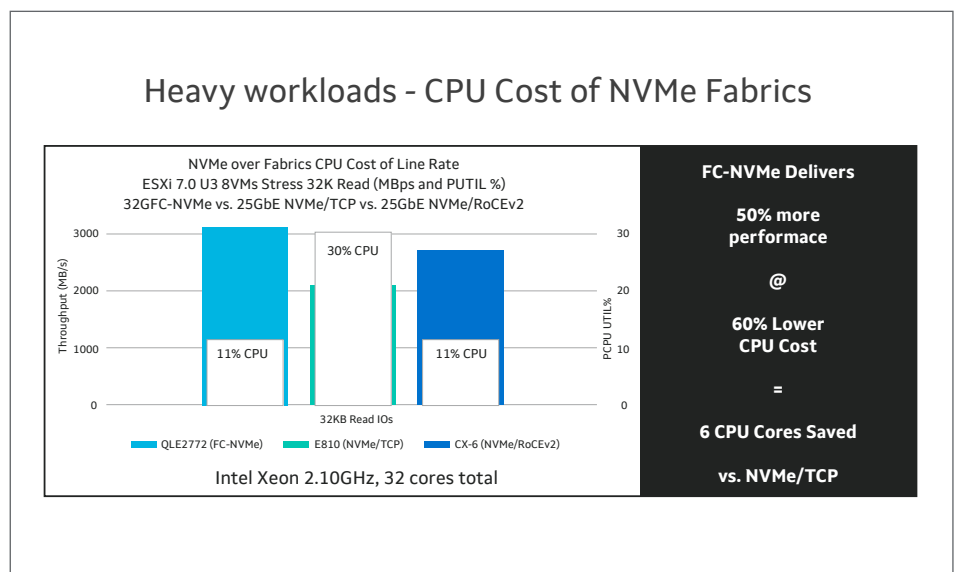

Figure 4: Heavy workloads - CPU Cost of NVMe Fabrics
With NVMe/TCP, software initiators are utilized to provide the command and control for encapsulating the NVMe commands into the TCP packets that are sent across the network. Standard TCP/IP congestion control is used to route the packets from the source to the destination. That means virtually any modern NIC with bandwidth of 10GbE or more can support NVMe/TCP. No RDMA is required, but because software initiators are used, the CPU and operating system (OS) stack are involved in the transmission and encapsulation of every single NVMe/TCP command, which can greatly reduce the overall performance and efficiency of the system. See Chart Figure 4 which compares the performance of various NVMe over Fabrics in a VMware ESXi deployment and note how stark the CPU Utilization difference is between FC-NVMe which is fully offloaded and NVMe/TCP which utilized server CPU cycles to process I/O.